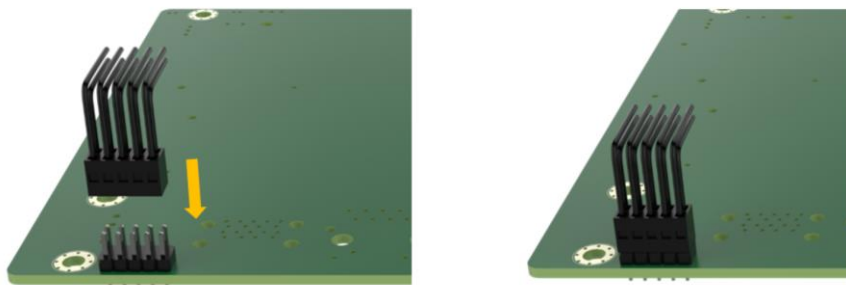

Figure 3-11: RS-232 Cable Installation
**Step 2:** Connect the serial cable to the serial connector on the mainboard. (**Figure 3-11**)